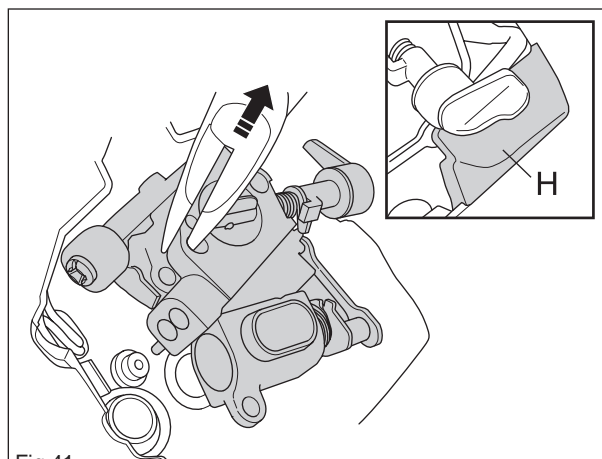

Fig 41
3. Assemble the fuel screen M using the handle of a small screwdriver, see figure 41.